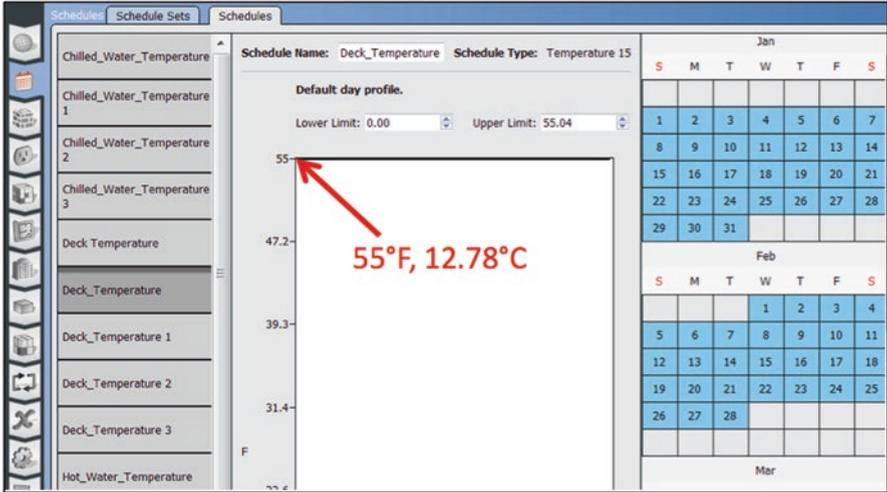

Fig. 5.41 VAV outlet setpoint temperature
2. Use the Schedules (📅) Tab to create a constant “Deck Temperature” Schedule as shown in Fig. 5.41.